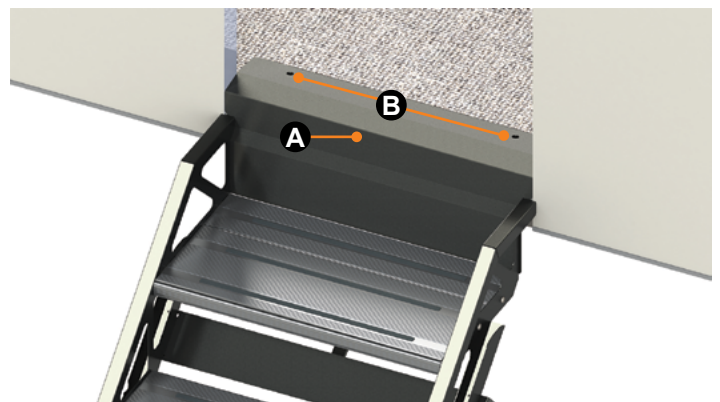

Fig.1
3. With the step assembly in the extended position (Fig.1), install 2 fasteners, either #10 - 1 ½" self-tapping screws (laminated floor), or #10 - 1 ½" wood screws (wood floor) into the mounting plate via the 2 access holes (Fig.1B) located in the top of the mounting plate.